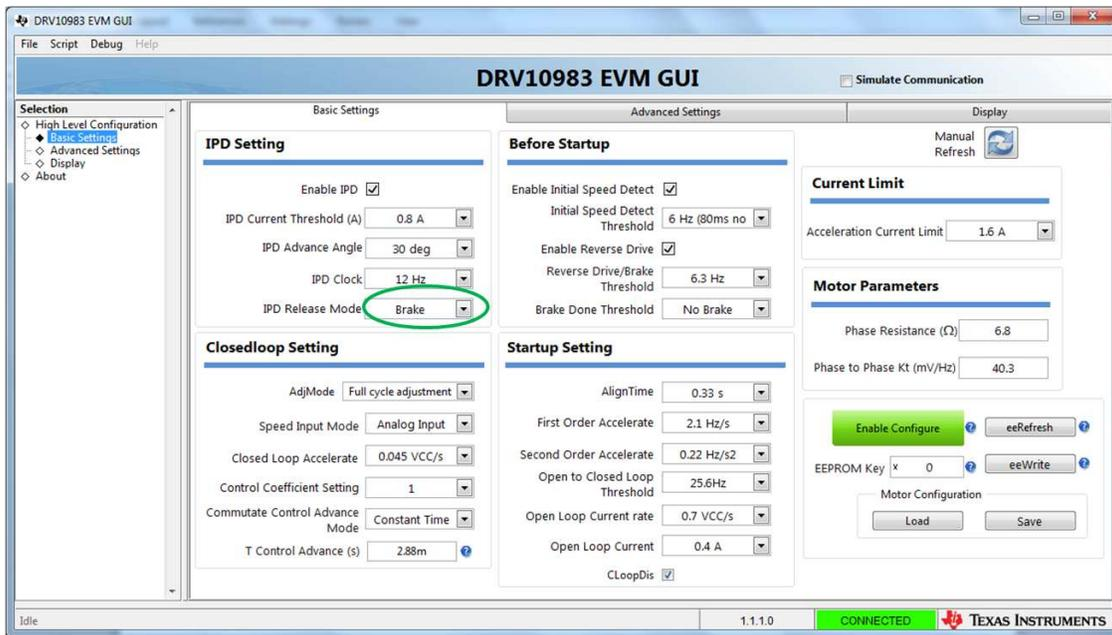

Figure 31. DRV10983x/75 EVM GUI Screenshot
10. IPD release mode - change IPD release mode using GUI (see Figure 31). Monitor phase current while evaluating Brake or Tristate mode. Turn ON motor in brake mode and capture phase current during IPD process, then turn OFF motor (see Figure 33). Change IPD release mode to tristate mode and repeat same process for this mode (see Figure 34).